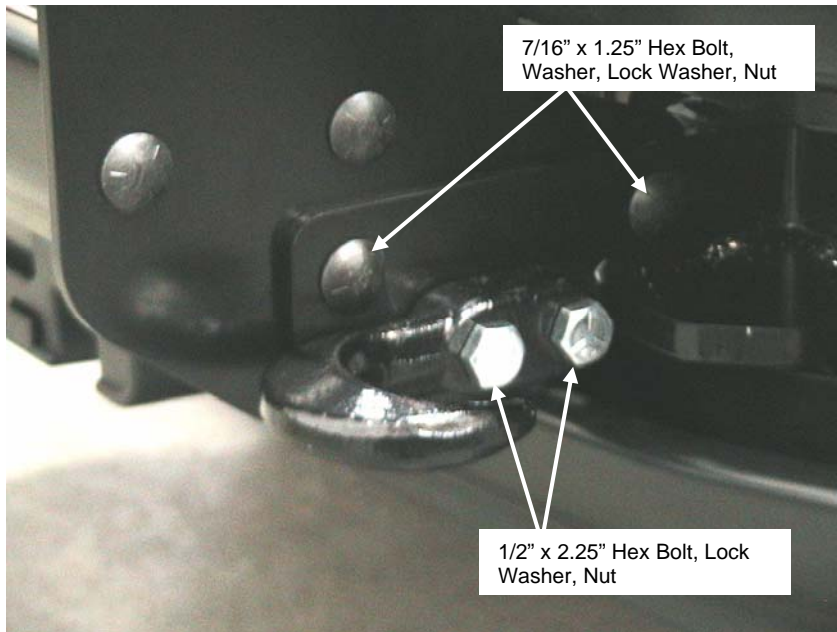

Figure 5. Side member installation (Driver Side)
8. Install fasteners as shown in Figure A and Figure 5. Do not tighten any fasteners until instructed to do so.